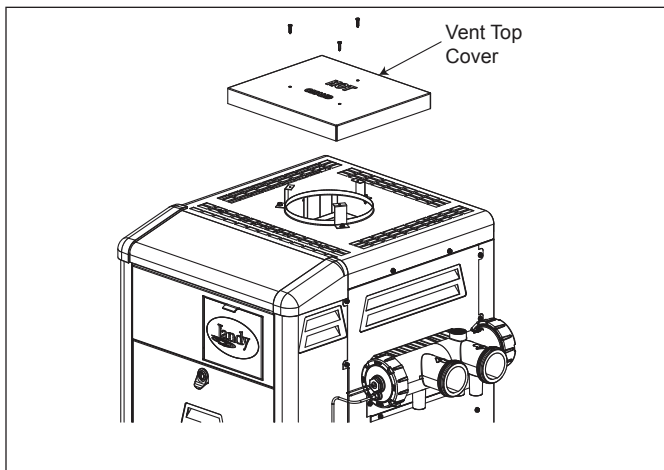

Figure 1. Remove the Vent Top Cover
2. Remove the vent top cover (stamped "HOT" and "CHAUD") by removing all three (3) screws on top. See Figure 1.